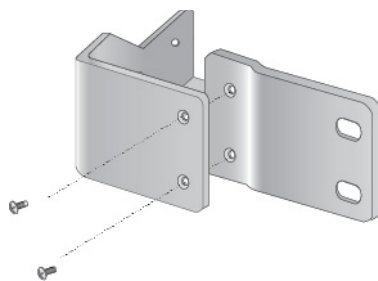

Figure 27. Attaching the Extension to the Bracket
2. Attach the extension to the bracket with the M4x6mm screws using a Phillips-head screw driver as shown in Figure 27.